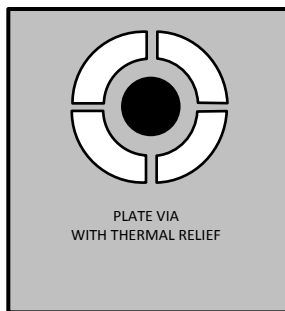
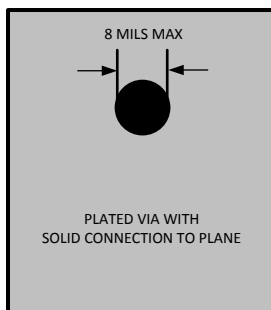

Figure 45. Via Connection Not Recommended Under the Thermal Pad
Figure 46. Via Connection Recommended For Use in Thermal Pad
5. When laying out these holes to the ground plane, do not use the typical web or spoke via connection methodology, as shown in Figure 45. Web connections have a high thermal resistance connection that is useful for slowing the heat transfer during soldering operations. This makes soldering the vias that have ground plane connections easier. However, in this application, low thermal resistance is desired for the most efficient heat transfer. Therefore, the holes under the thermal pad should make their connection to the internal ground plane with a complete connection around the entire circumference of the plated-through hole. Use plated via with solid connection to plane as shown in Figure 46.